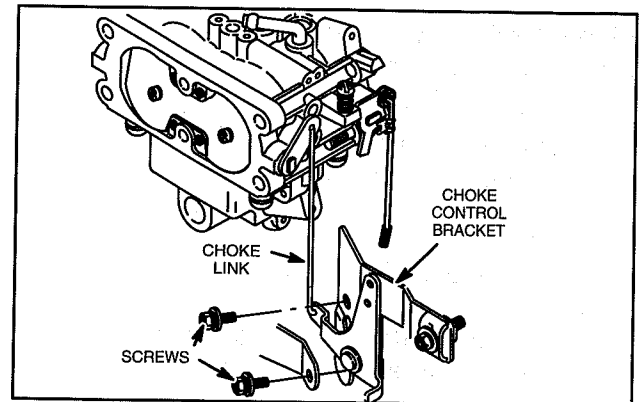

Fig. 68 – Install Choke Control Bracket
6. Connect choke link to choke lever and install choke control bracket, Fig. 68.